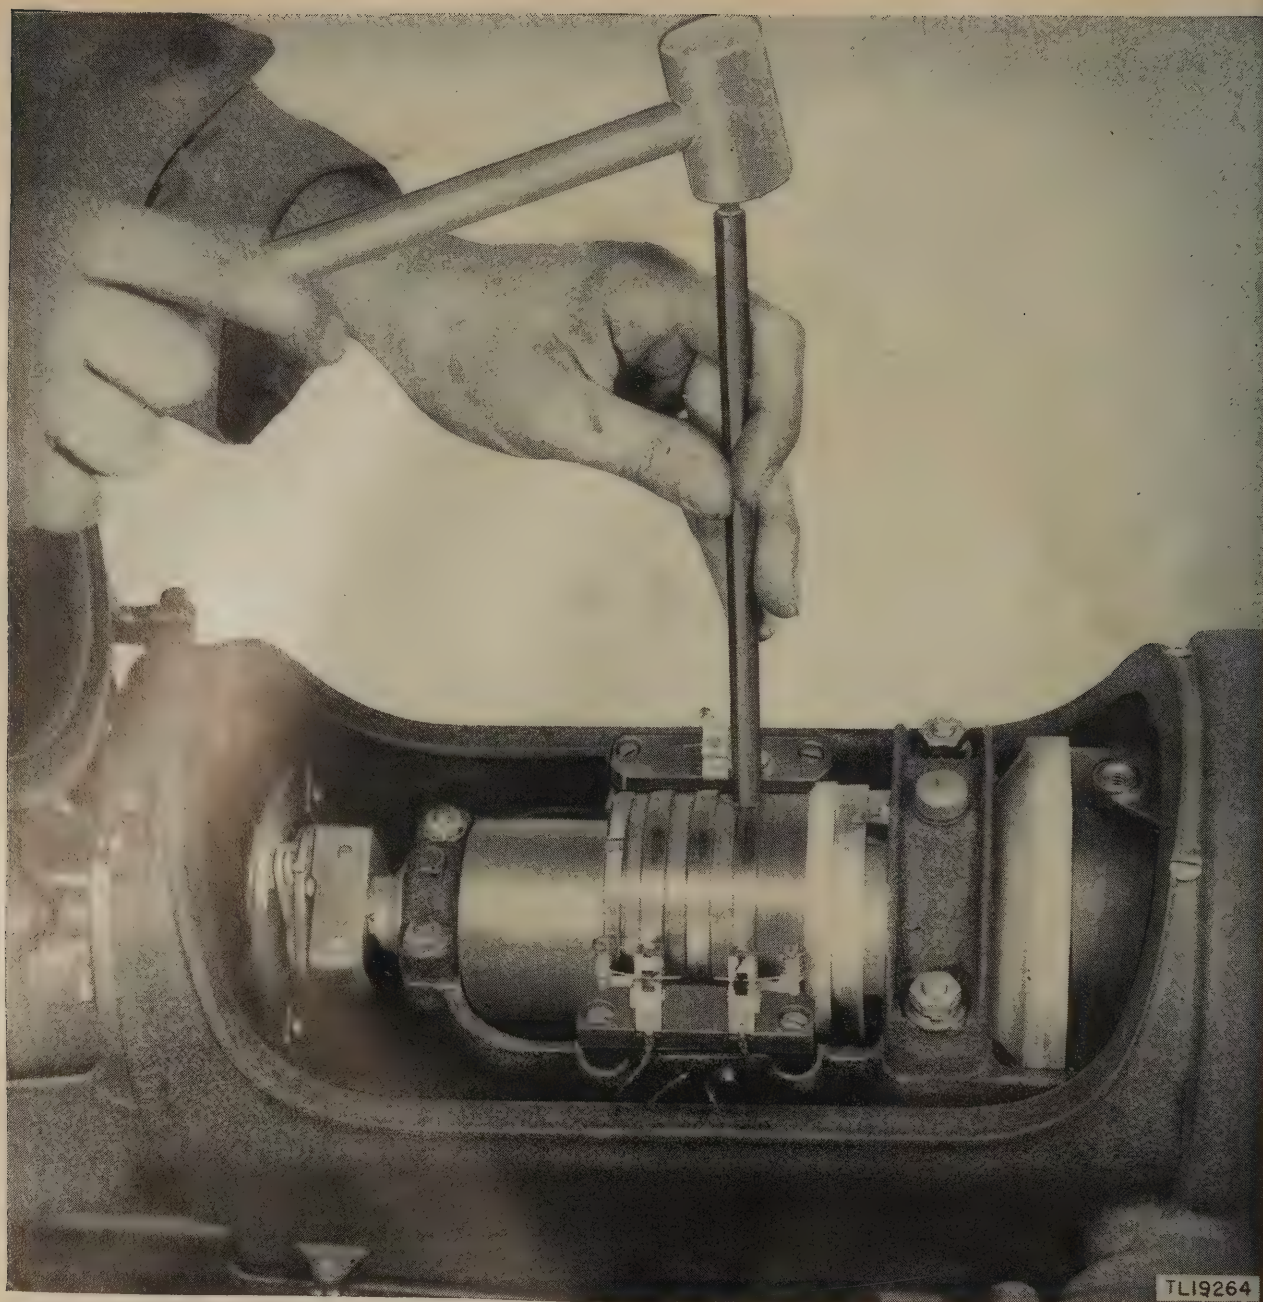

Figure 125. Bearing Indicator BC-1159-A, correcting slip-ring eccentricity.
- (1) Throw the MOTOR and POWER switches to OFF.
- (2) Loosen the two setscrews in the slip-ring retainer.
- (3) Tighten the slip-ring retainer by turning it to the left (as viewed from the front of the indicator).
- (4) Tighten the setscrews to hold the retainer in the new position.
f. SLIP RING ECCENTRICITY (fig. 125). The slip rings may become eccentric. Generally, the eccentricity can be eliminated only by machining and polishing the rings in a lathe. Occasionally, the defect can be repaired by the simple procedure explained below.
- (1) Inspect for eccentricity by observing the protruding arm of the brush pressure spring while the indicator is running. Any perceptible movement of the brush pressure spring arm is an indication of eccentricity, and immediate
- (2) Throw the MOTOR and POWER switches to OFF.
- (3) Rotate the slip rings by hand until the high spot is located.
- (4) With the high spot turned to an easily reached position, place the square, smooth end of a bakelite rod (or a rod of other suitable material) on the high spot and lightly tap the other end of the rod.
- (5) Recheck the high spot and, if necessary, repeat the above procedure.
- (6) Again check the entire slip ring for high spots. If there is no movement of the brush spring arm during the full rotation of the ring, the slip ring can be considered satisfactory.